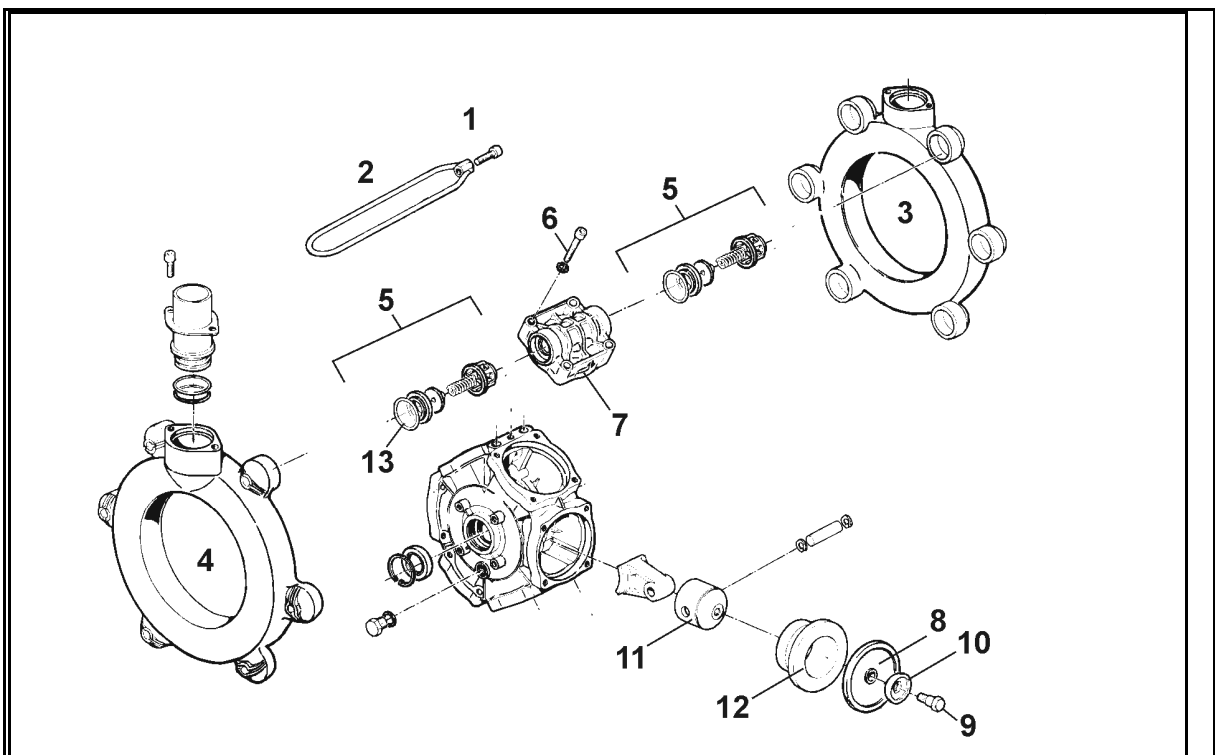

Fig. 156
1. Release the lock nut of the adjusting screw (Fig. 156/1).